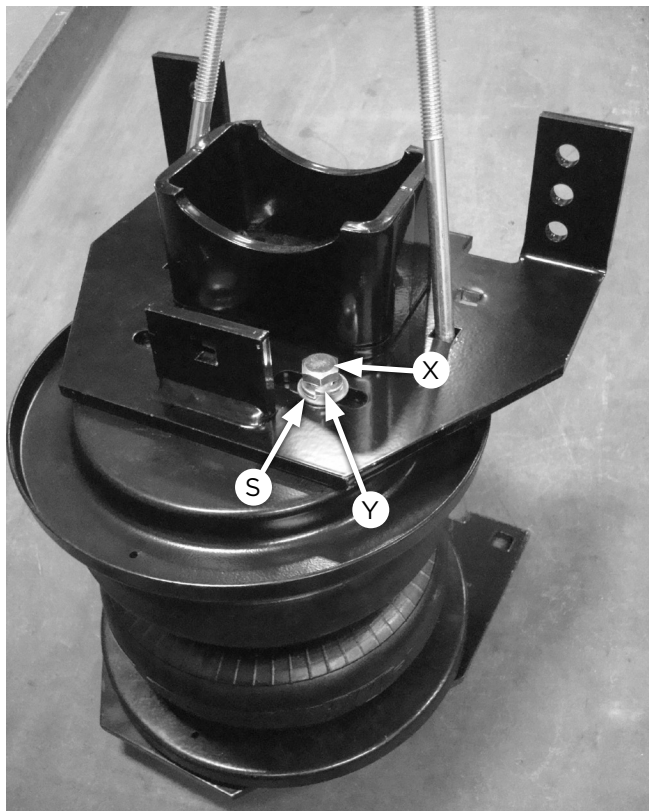

Fig. 13
- Set the lower bracket main plate assemblies onto the air springs with the roll plates installed. Attach with 3/8"-24 X 3/4" hex bolt (X), 3/8" lock washers (Y), and 3/8" flat washers (S) (Fig. 13). Push the lower bracket as far forward as possible. Torque the hardware to no more than 20 lb.-ft. (27Nm). Refer to Figures 13 and 14.